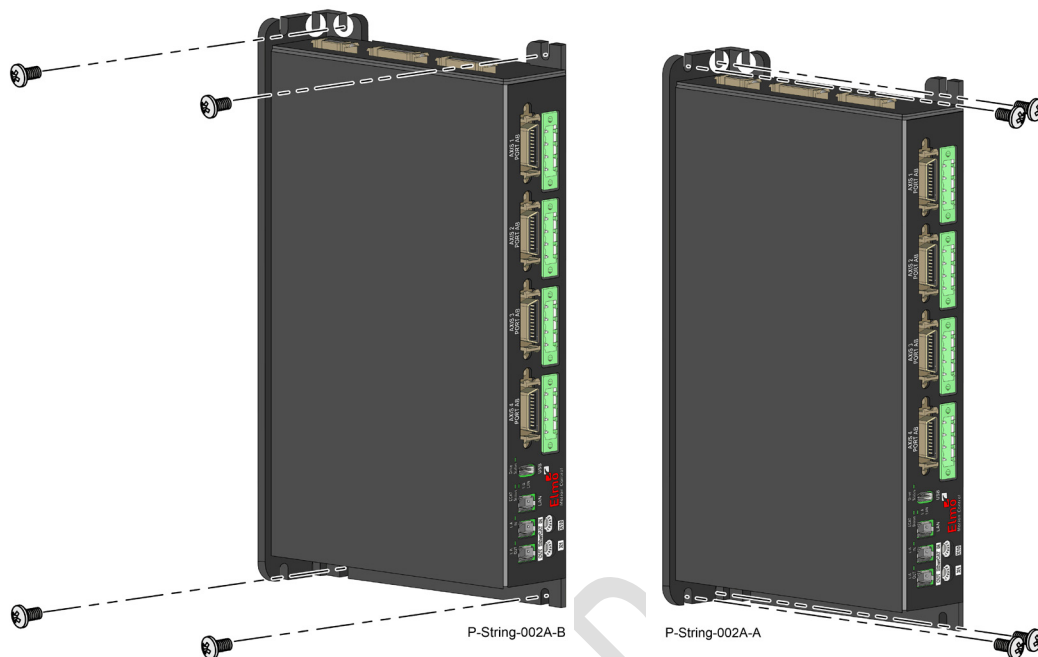

Figure 1: Mounting the Platinum String Quad (Quartet) L-Shape
- For narrow back-side mounting the Platinum String Quad (Quartet), use four M4 screws, as shown in Figure 1: Mounting the Platinum String Quad (Quartet) L-Shape below.
- For wide-side mounting the Platinum String Quad (Quartet), use four M4 screws, as shown in Figure 1: Mounting the Platinum String Quad (Quartet) L-Shape below. This is the recommended way to mount the L-shaped Platinum String Quad (Quartet).